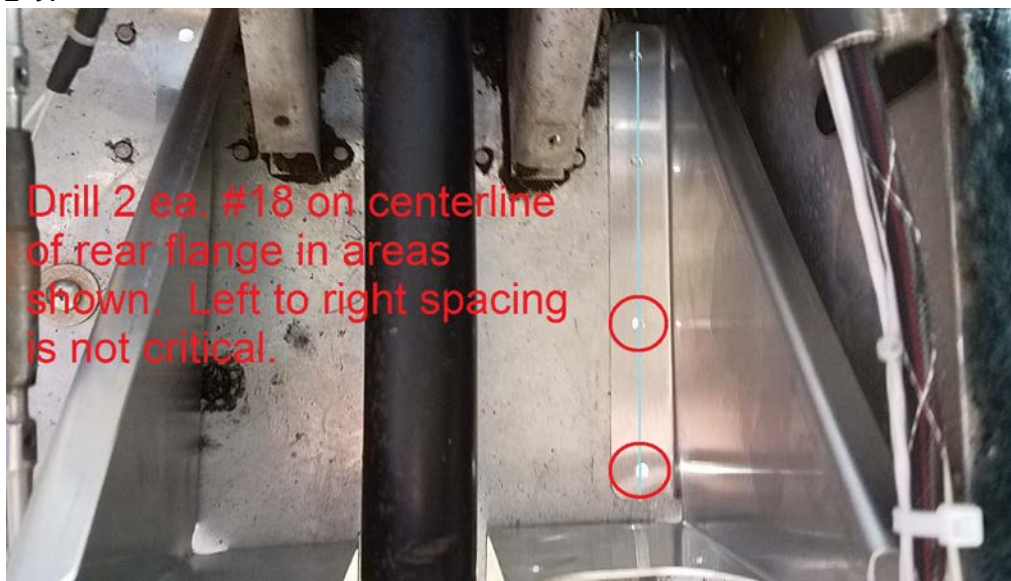

Figure 2-9
- 1.16. Drill 2 more #18 holes through the lower rear flange of the pitch bracket assembly (P/N 7200-103) and lower fuselage as shown in Figure 2-9.